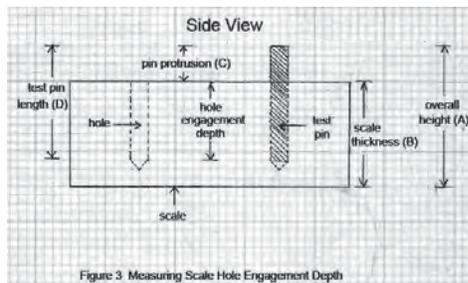

Figure 3: Measuring Scale Hole Engagement Depth
the scale at the point of the hole and the distance between the bottom of the scale and the top of the test pin when it is fully seated in the hole (see Figure 3). Overall height (A) – scale thickness (B) gives you pin protrusion (C). Test pin length (D) – pin protrusion (C) gives you hole engagement depth.